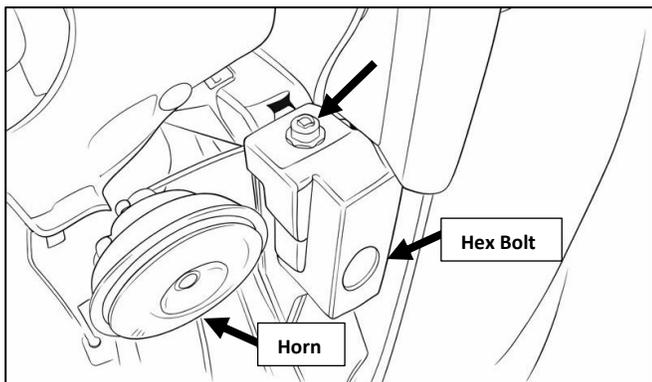

Figure 3: Bumper Inner Bolt Location, Left Side
5.  Remove the screws on both sides of the space left by the grill using a T30 driver. **See Figure 3.**